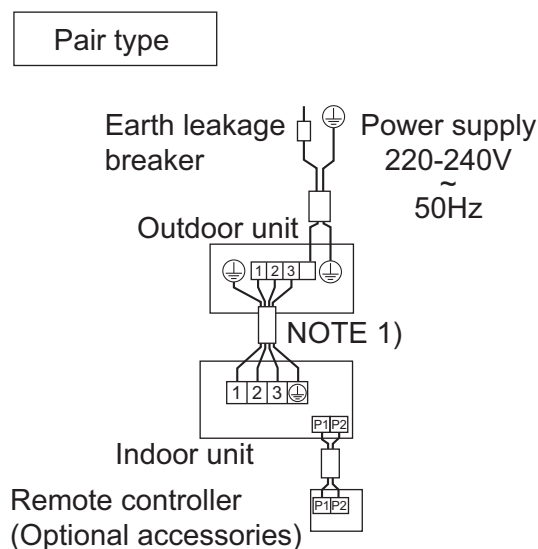

Fig. 40
- **Pair type:** 1 remote controller controls 1 indoor unit (standard system). (Refer to Fig. 40)